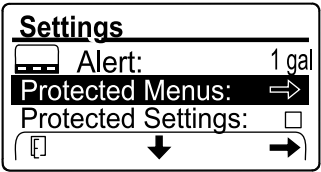

Figure 108
- Enter the PIN code for the PROTECTED MENUS option (Figure 108), refer to Accessing Protected Menus \(page 24\).